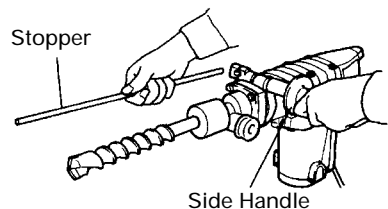

Fig. 9
4. Install the stopper (Fig. 9)